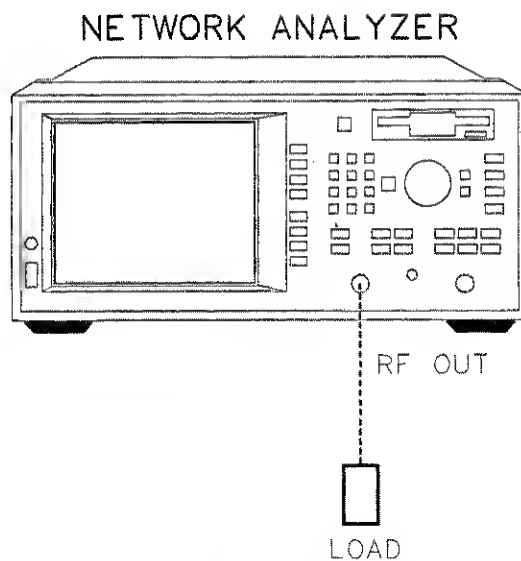

Figure 2-9. Connect the Load
4. Disconnect the cable and connect a known good load to the RF OUT port as shown in Figure 2-9.